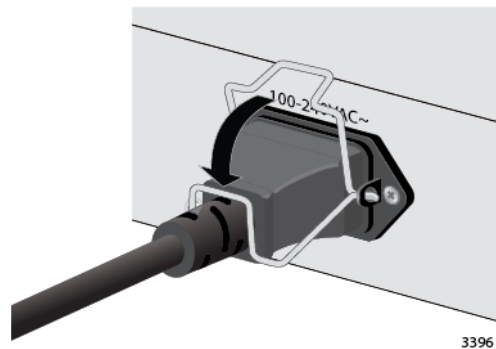

Figure 47. Lowering the Retaining Clip
3. Lower the retaining clip to secure the power cord to the switch. See Figure 47.